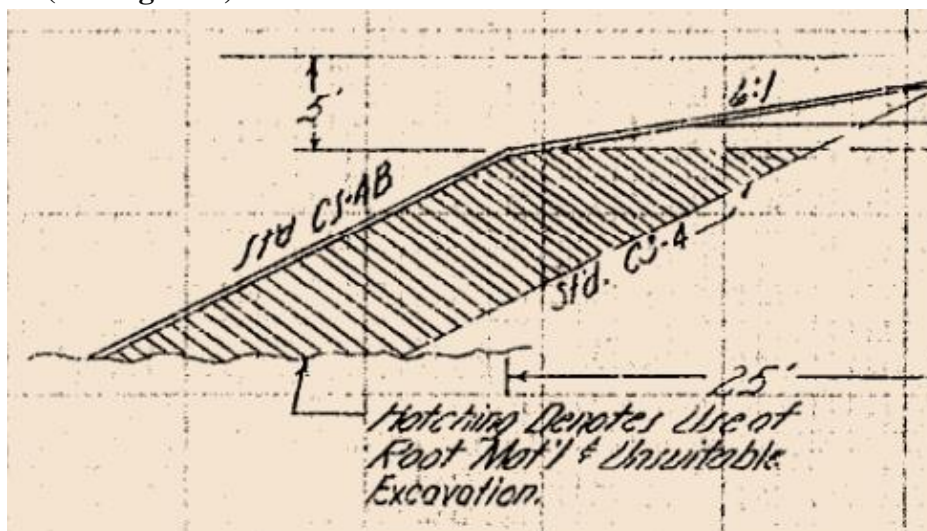

Figure 5: As Builts, Sept. 1968-Unsuitable Soil used for Embankment Side Slopes
- Construction of existing embankment slopes with unsuitable materials from the as-built roadway plans dated Sept. 1968 (See Figure 5).